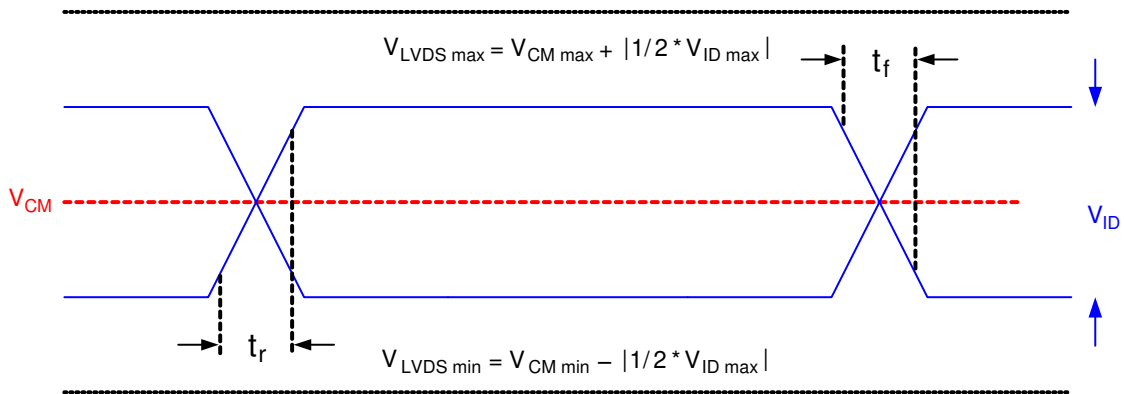

Figure 6-5. LVDS Waveform Requirements
- (8) See Figure 6-5 LVDS Waveform Requirements.
- (9) Simultaneous exposure of the DMD to the maximum Section 6.4 for temperature and UV illumination will reduce device lifetime.